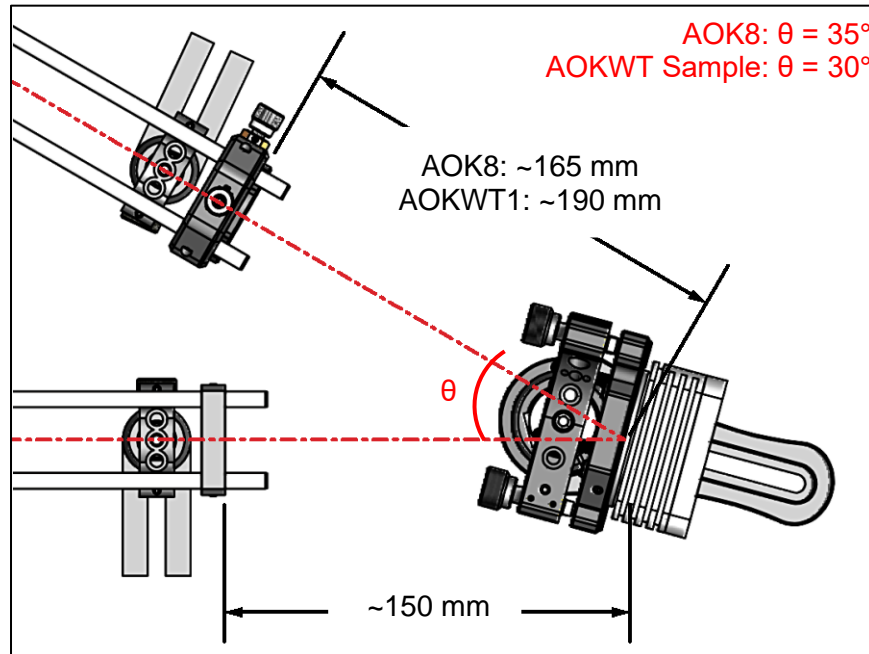
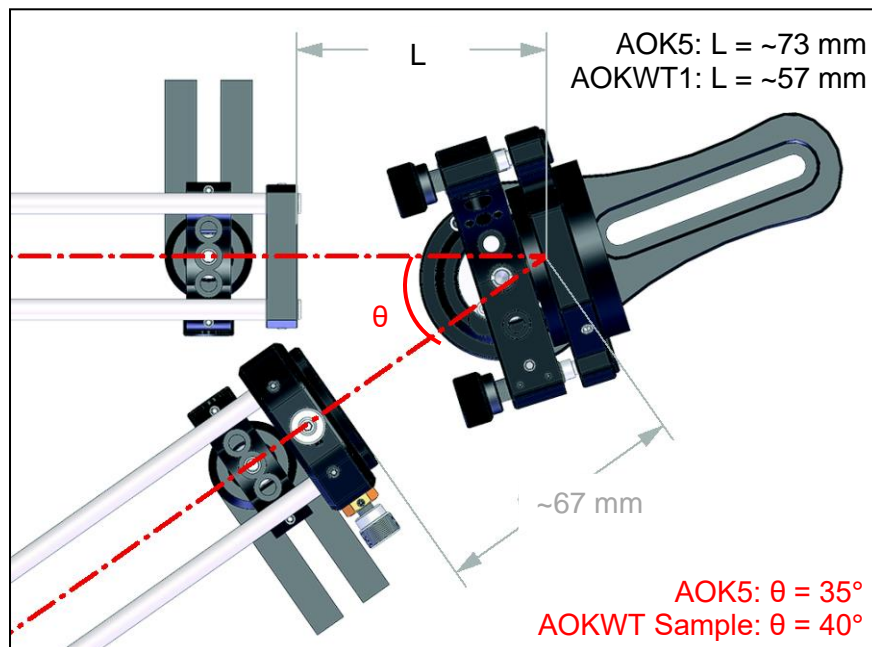

Figure 26 DMH40/DMP40 Deformable Mirror Alignment
Figure 27 DM140A Deformable Mirror Alignment
- 2) Position the DM subassembly such that the DM mirror surface is spaced according to the kit and the type of mirror and lens relays being used. The DMH40/DMP40 spacing is shown in Figure 26 below. The DM140A spacing is shown in Figure 27 below. Note: if assembling an AOKWT Sample kit in the standard configuration, the DMH40/DMP40 is first.
- 2) Position the second DM subassembly such that the DM mirror surface is spaced according to the type of mirror and lens relays being used, commonly DM140A. The DM140A spacing is shown in Figure 27.